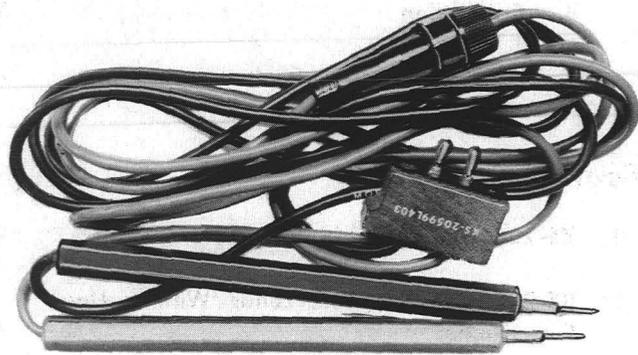

Fig. 2—KS-20599, L403, Test Leads With In-Line Fuse Holder
- KS-20599, L403, test leads with in-line fuse holder (See Fig. 2)
2.06 The meter comes equipped with one pair of KS-20599, L403 test leads, (see Fig. 2). Each lead (one red and one black) is 5 feet long, including the test probes and terminating plugs. A 2-ampere fuse is contained in the fuse holder in the Hi (red) lead.